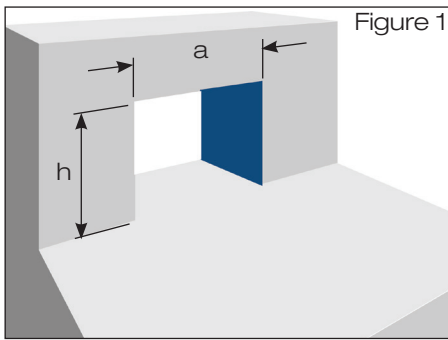

Figure 1
- 1.1 Make the parapet opening according to Table 1 (Figure 1). Make the hole as far as the bare slab so that the roof space can be drained during the construction phase. According to flat roof regulations, the lateral distance from the outer edge of the drain flange to the upstand of the building must be at least 300 mm.